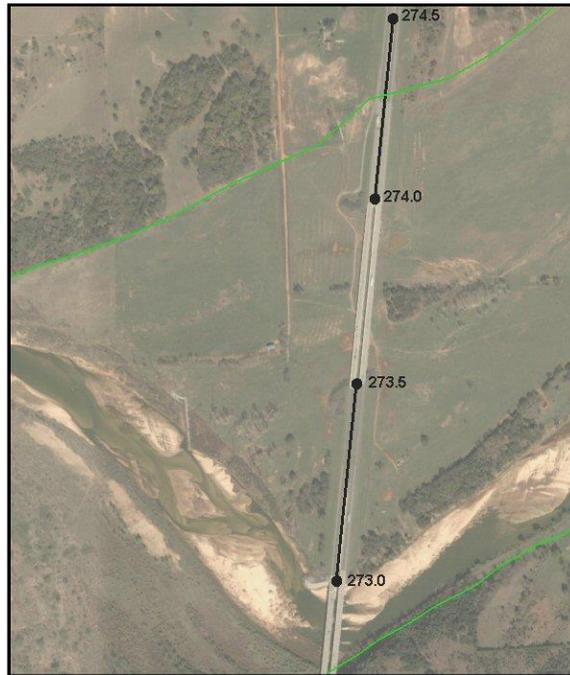

Figure 17 Roadway embankment arc and elevations
6. Using the **Create Feature Arc**  tool, click out two arcs for the road embankments, as shown in Figure 17.